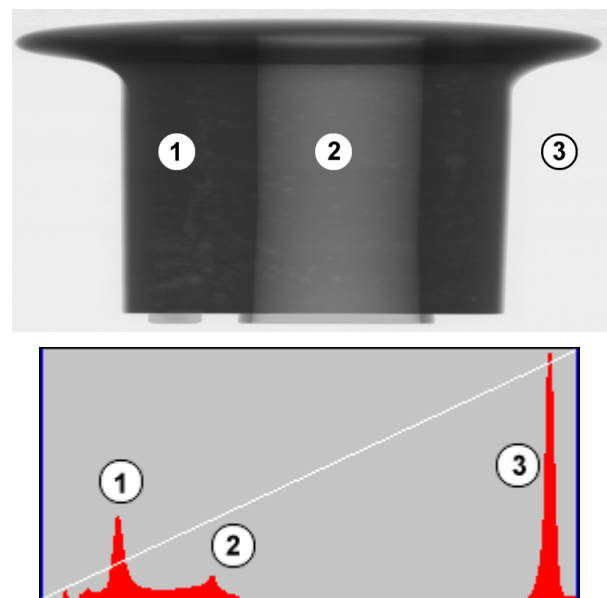

Figure 11
Before you work with the greylevel variation, you should understand the meaning of the histogram: By means of the histogram it can be seen how many pixels per pixel value are contained in the image. Figure 11 shows the x-ray image of a cylindrical aluminum part and the associated histogram.
The x-ray image in Figure 11 can be divided into three major areas: The dark object (1), the brighter area in the middle of the object (2) and the bright background (3).
In the example of Figure 11, the brightness line runs linear from the lower left to the upper right corner. That means, that pixels with a low pixel value are displayed dark and pixels with a high pixel value are displayed bright.